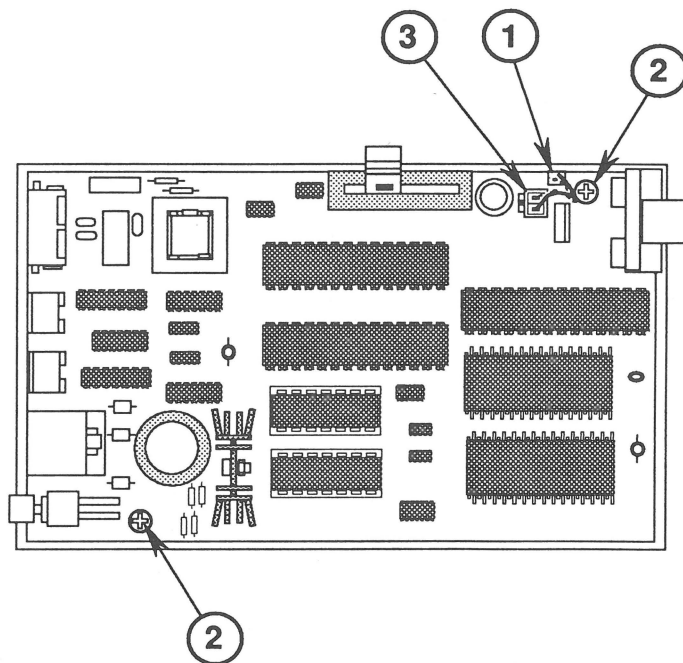

FIGURE 9
2. Position the main logic board above the bottom case and route the speaker cable through the slot on the upper-right side of the board (Figure 9, #1). Lower the main logic board into the bottom case.
3. Replace the two Phillips screws and star washers (Figure 9, #2).
4. Connect the speaker cable to the main logic board (Figure 9, #3).